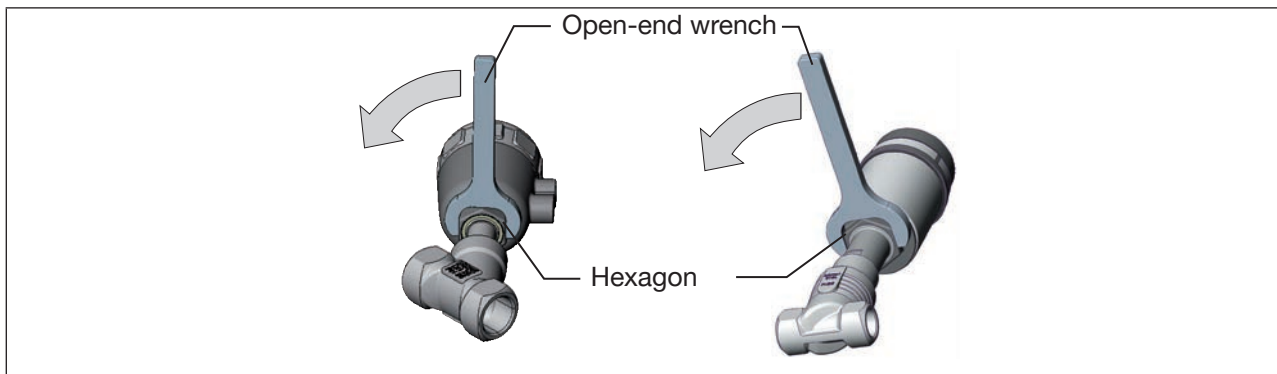

Figure 30: Rotating with special key / open-end wrench
- ▶ Rotate the actuator module in the specified direction only (see “Figure 30”) .